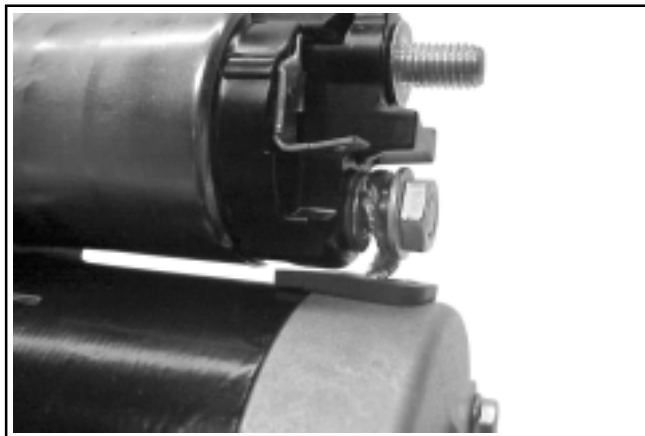

Figure 8-36. Connecting Brush Lead.
14. Connect the braided (brush) lead to lower main solenoid terminal and secure with the hex. flange nut. See Figure 8-36.